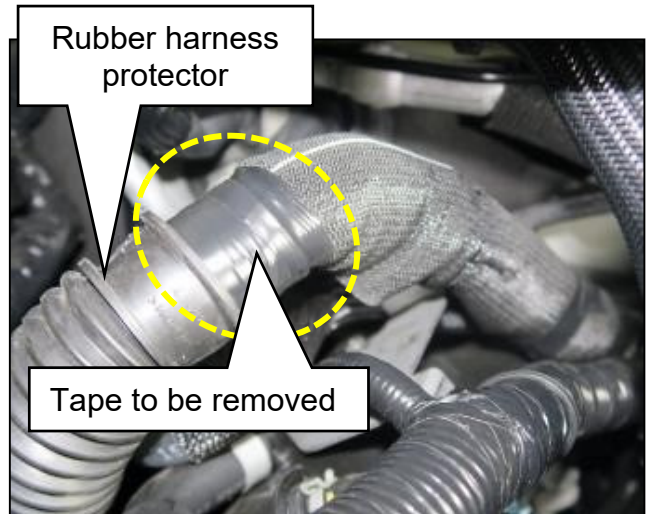

Figure 10
10. Carefully remove the vinyl tape to expose the area above the rubber harness protector, shown in Figure 10.